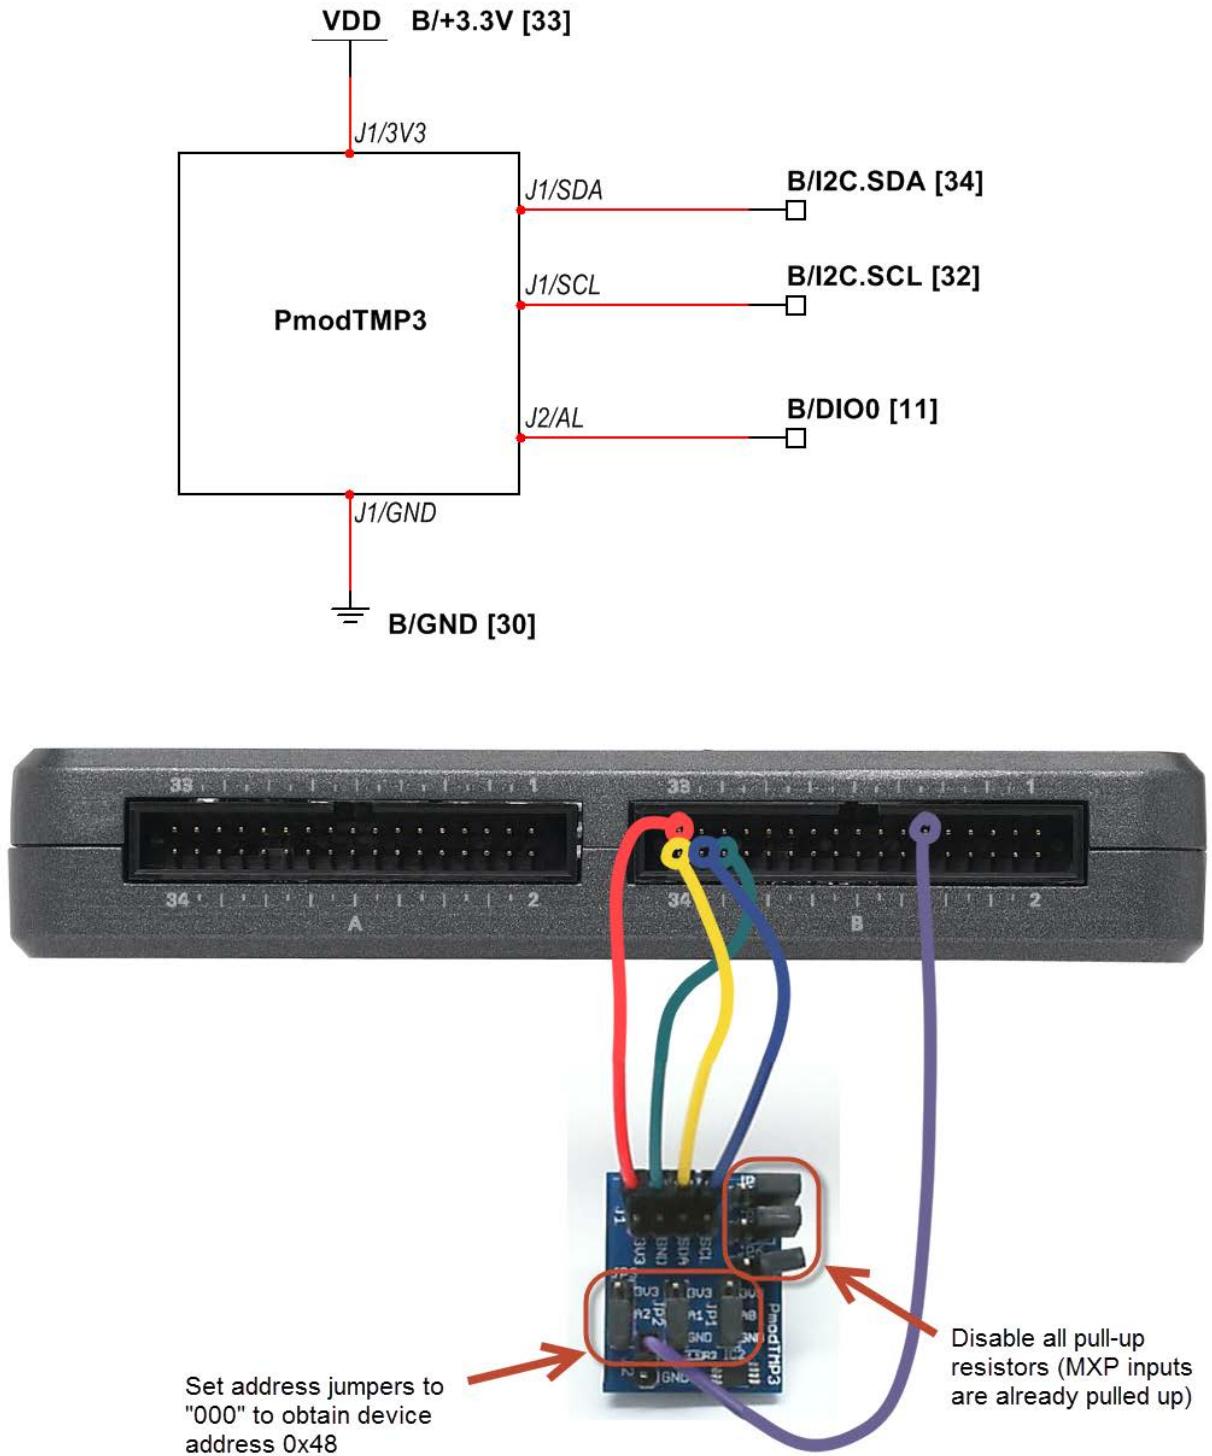

Figure 33.2: Demonstration setup for temperature sensor connected to NI myRIO MXP Connector B. Set *all* jumpers exactly as shown.
Build the interface circuit: Refer to the schematic diagram shown in Figure 33.2 on the following page; the temperature sensor requires five connections to NI myRIO MXP Connector B (see Figure A.1 on page 227):
- Correct PmodTMP3 address jumper settings — refer again to the circled region of Figure 33.2 on the facing page for the proper settings.